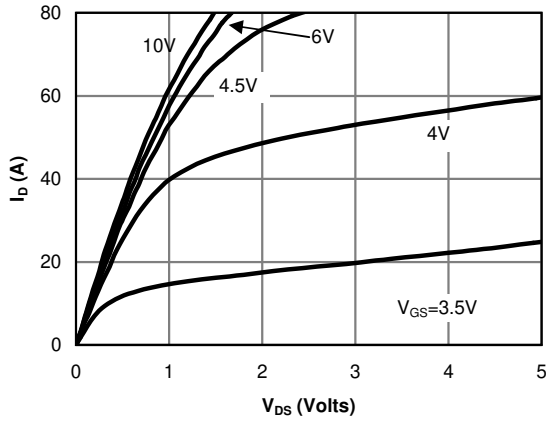

Fig 1: On-Region Characteristics (Note E)
E. The static characteristics in Figures 1 to 6 are obtained using  $<30\mu\text{s}$  pulses, duty cycle 0.5% max.